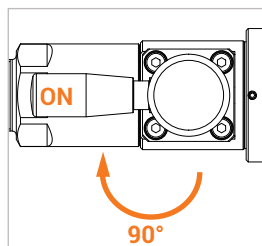

Figure 2
- ▶ Actuate the hand lever (Pos. 3) of the shut-off valve 90° to the ON position to open it (*Figure 2*).